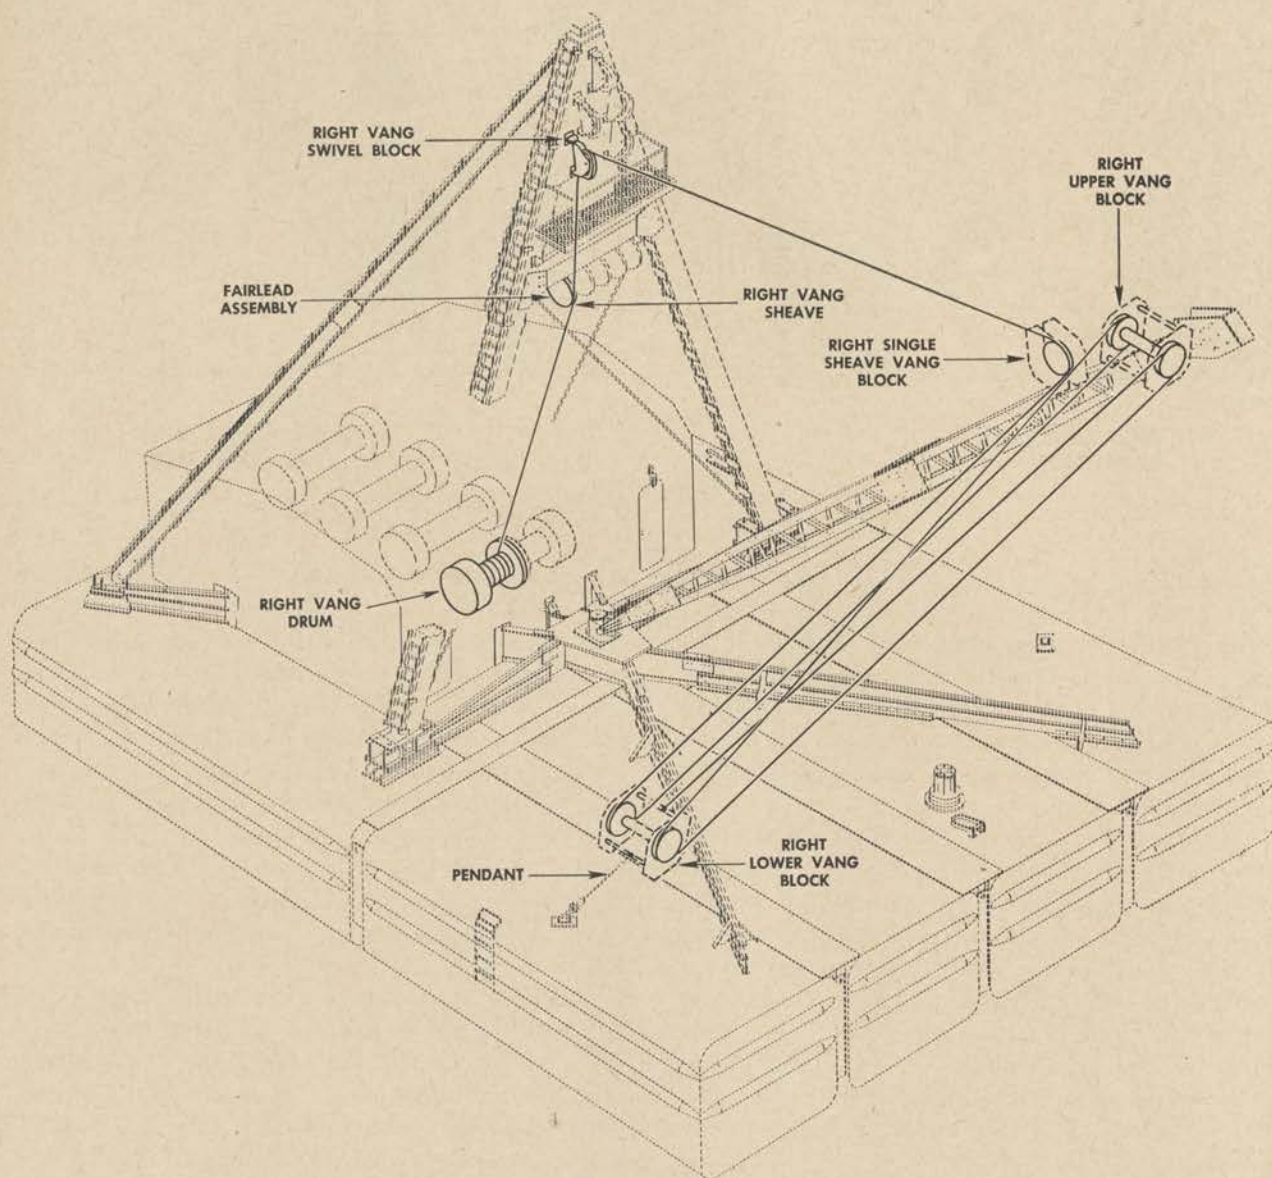

Figure 135. Reeving of starboard vang cable.
starboard side of the deck. (See figs. 135 and 137.) The 10-foot pendant lines are equipped with sockets already installed on each end of the pendant lines. Secure the sockets to the vang line blocks by means of the bearing pin and the cotter pins, and to the deck pads by means of a shackle, bearing pin, and cotter pins.
(2) Reel the vang cable on the right drum of the twin vang drum installation of the hoist. Make sure that the cable is securely clamped, and that the direction of unreeling will be such as to have the end of the cable lead off the rear of the drum.
(3) Pass the free end of the cable around the right sheave of the fairlead, located on the cross-brace, thence up to the lowest right swivel block, as shown in figure 135. From the right swivel block, pass the cable around the single sheave block, on the right side of the boom, and pass down to the vang line block at the end of the pendant, to the left sheave. From this point, the cable is passed around the two-sheave vang block which is secured to the boom end directly above the single sheave. (See fig. 135.)
(4) Pass the cables around both sheaves of the upper and lower vang blocks (back and forth), bringing the free end of the cable from the right sheave of the upper vang block down to the lower
vang block and secure it by clamping to the hitch pin, using clamps. (See fig. 135.)